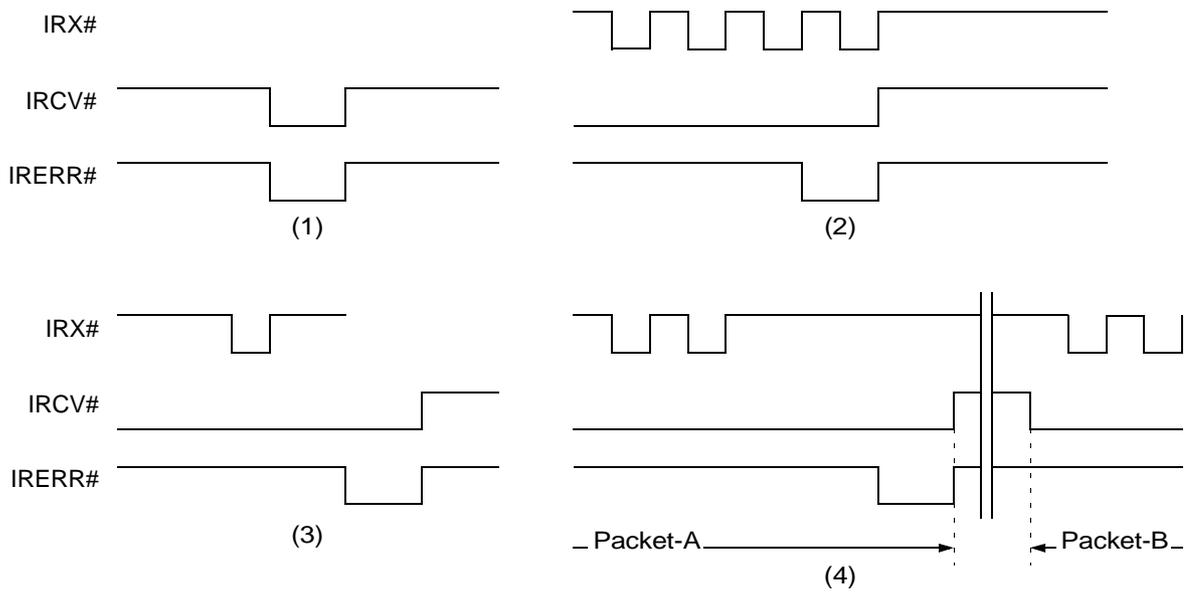

Figure 10-1-6 IRERR# Appearing Pattern
According to errors, such as CRC error of the header/payload, discrepancy between length value in the header and data number in actual packet payload, lack of data in the header, mid-lack of payload, etc., the appearance pattern of IRERR# can differ in many ways. Whether a packet being received during IRCV# assertion is encountering an error or not is known in the period after the assertion of IRCV# or the negation of IRCV# of the packet and before the assertion of IRCV# in the next packet received. The relationship among IRX#, IRCV#, and IRERR# is shown by the patterns in Fig. 10-1-6. In Pattern (1), IRCV# and IRERR# are simultaneously asserted and reception of this packet is finished when IRCV# is negated without the assertion of IRX#. In this case, the error pattern indicates that reception is finished only with the first Quadlet of the packet. Reception of isochronous packet header itself is also ended on the way, without attaining the specified number of quadlets.